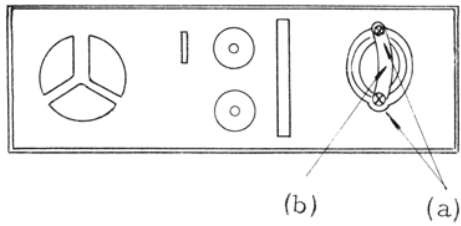

Fig. 13-1
- (1) remove two screws (a) as shown in Fig. 13-1,